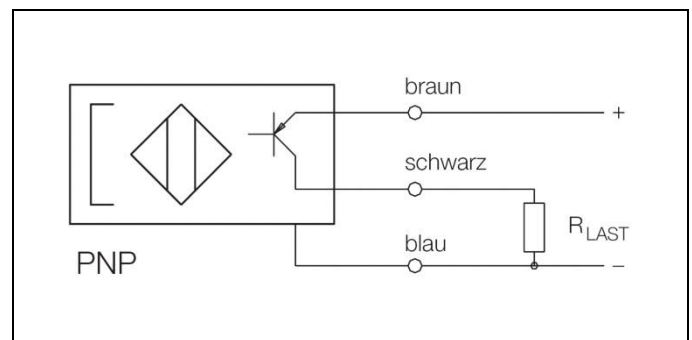

Figure 8: Circuit diagram for PNP (+) magnetic sensor
- Proceed in the same way with S2, so that a signal course as per figure 8 will be obtained..